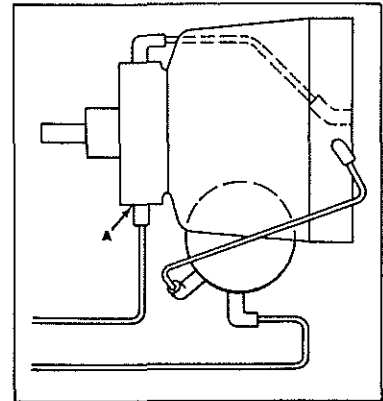

FIGURE 6-4
To check the hydrostatic pressure install the gauge into a tee hydraulic fitting between hydrostatic port (A) Figure 6-4 and existing hydraulic tube. Start engine and run for 5-10 minutes. At full R.P.M. the pressure reading should be 140 PSI \pm 50 (964 kPa).